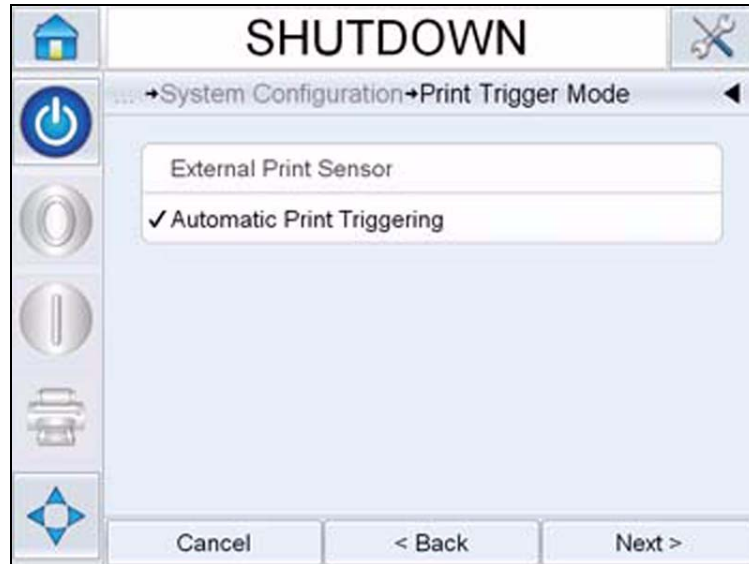

Figure 5-13: Print Trigger Mode
- 3 Touch *Next* to configure the direction in which the product will pass the printhead (see Figure 5-13).
- 4 Touch *Next*, to set up the print trigger mode (see Figure 5-13 on page 5-12).